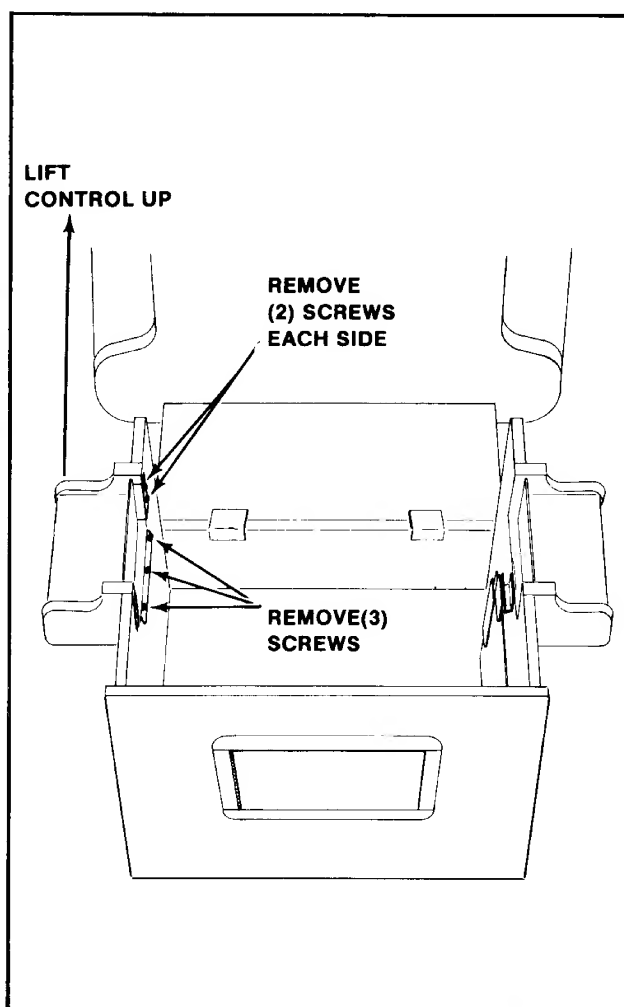

Figure 4-4 Removing the Control Panel — Cocktail
3. COCKTAIL TABLE MODEL: See Figure 4-4.
Remove the screws which secure the control panel in place. See Figure 4-4.